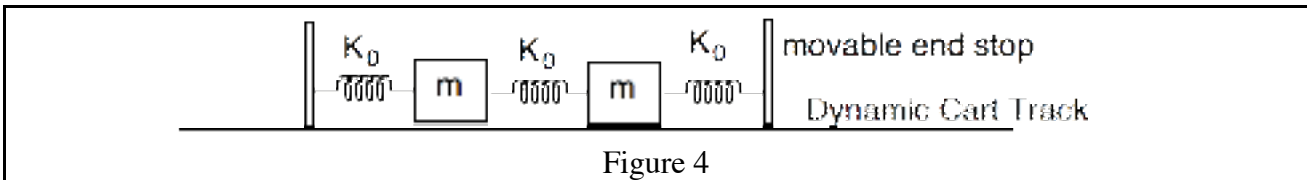

Figure 4
Two equal mass dynamics carts are placed on a horizontal dynamics cart track and are coupled together with identical springs. In the equilibrium position all springs are stretched the same amount, so that the total force both masses is zero. Refer to Figure 4.
1. Assemble the system shown in Figure 4. Adjust the movable end-stops such that each spring stretches approximately 30 cm.